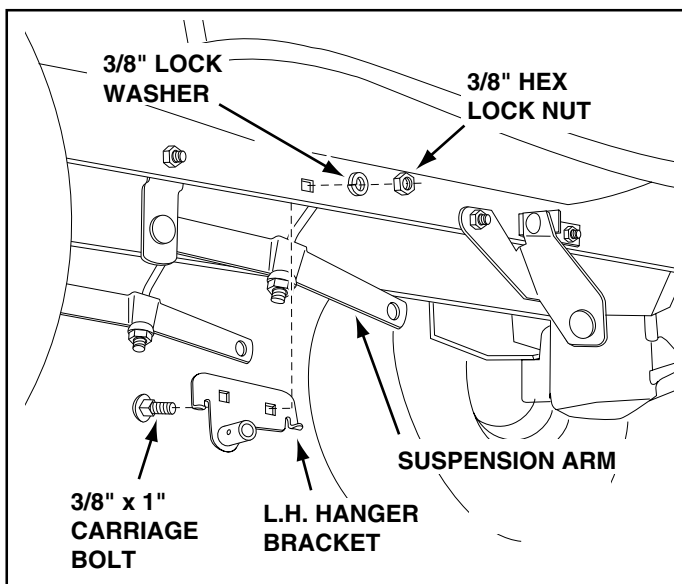

FIGURE 8 LEFT SIDE VIEW
On Tractors Without Foot Rest Brackets (Figure 8)
- Find the empty hole beneath the foot rest. Attach the L.H. Hanger Bracket (marked "L") to the inside of the frame using a 3/8" x 1" carriage bolt (head to inside), a 3/8" lock washer and a 3/8" hex lock nut. See figure 8. Repeat for the R.H. side.